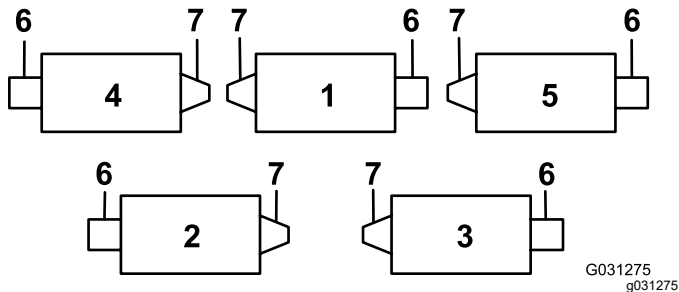

**Figure 11**
**Note:** The bolt head is to be positioned to the outer side of the tab as shown in Figure 11.
E. Mount the rod bracket to the cutting-unit tabs with the carriage bolts and nuts (Figure 11). On the cutting unit, mount the left hose guide to the front of the cutting unit tabs when reinstalling the rod bracket (Figure 13).